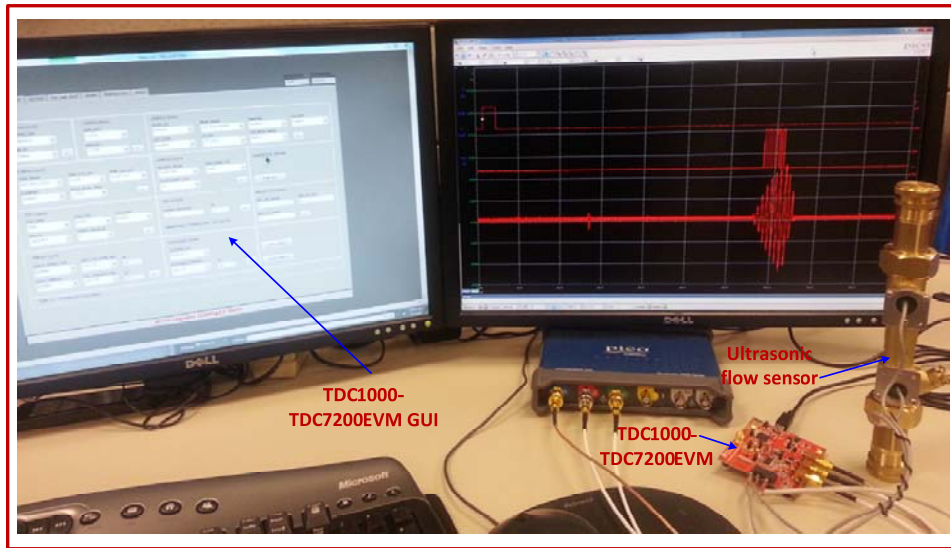

Figure 4. zero flow demonstration setup
The zero-flow demonstration setup is shown in Figure 4.
For the demonstration purpose we use an Audiowell ultrasonic water flow-meter pipe shown in Figure 4. This sensor can be obtained from the source included in the reference section.
4. Connect the sensor to the EVM connector as shown below. Place the pipe on a flat surface in a standup position as shown if Figure 4. This would move up any bubbles trapped between the two transducers to the top of the pipe and away from the signal path. Bubbles trapped in the signal path causes severe attenuation of signal.
5. You may want to view the signal waveforms (Start, Stop, and Ultrasound received waveform at the input of TDC1000 internal comparators) on a scope to make sure proper operation of the sensor. You can either connect the scope probes to the provided terminals (test points) on the EVM or solder SMA connector on the EVM board and use the cables shown in Figure 4